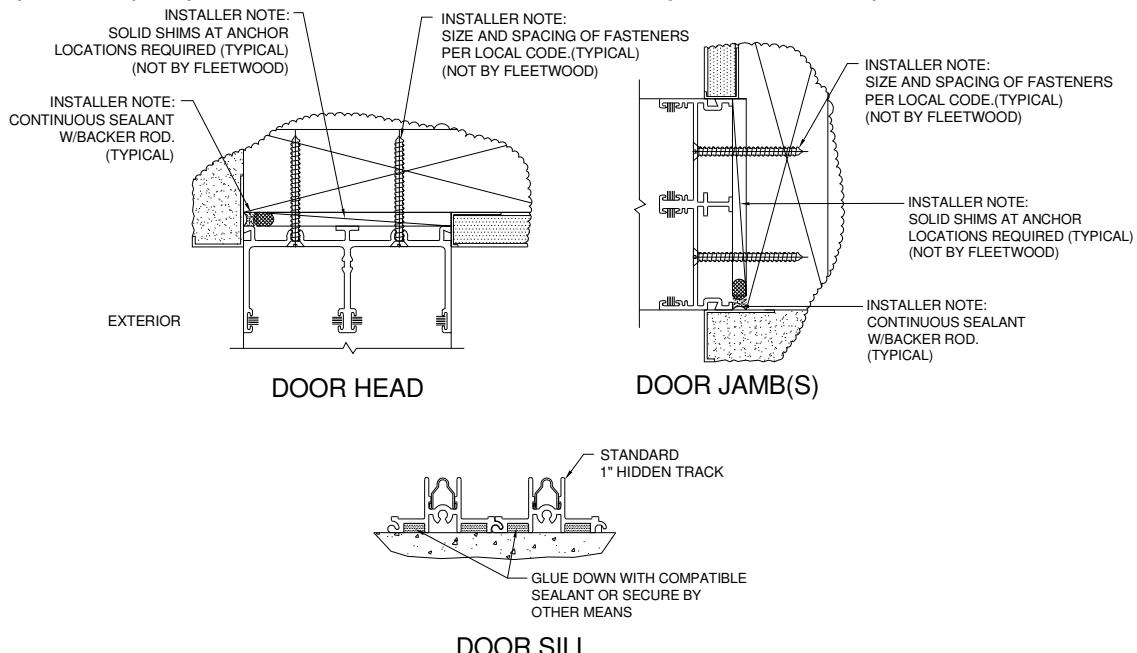
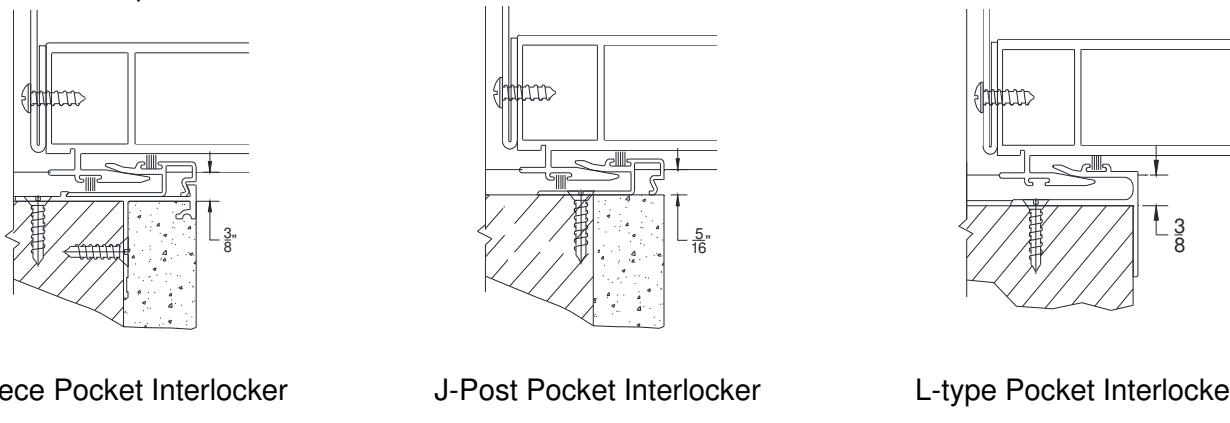

Figure 7:
Figure 8:
- Attach frame to structure as shown below (Figure 7). On pocket doors it is important to locate the frame $3/8"$ from the inside pocket wall where a 2-piece and L-type Pocket Interlocker is used to allow for proper interlocking of panel with post interlocker. On installations where the J-Post Pocket interlocker clip is only used, a $5/16"$ distance is required. Figure 8 illustrates the different Pocket interlocker options.
Note: PX and XP door panels can be taken out by removing the lock stile and the Pocket Interlocker clip attached to the frame. Dependent on the pocket interlocker type, removal of the wall may be necessary (Figure 8, Figure 14-16).